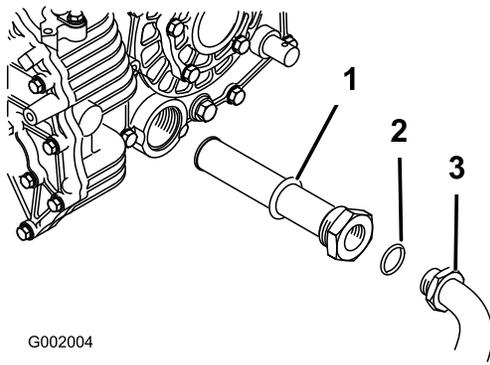

Figure 54
5. Remove the hydraulic hose and 90° fitting (Figure 54).